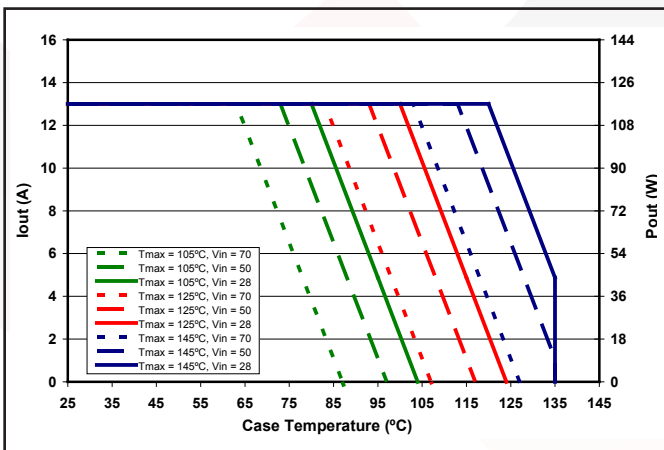

Figure 5: Output Current / Output Power derating curve as a function of  $T_{case}$  and the Maximum desired power MOSFET junction temperature (see Note 14).
2. Derate output power for continuous operation per Figure 5.
**THERMAL CONSIDERATIONS:** Figure 5 shows the suggested Power Derating Curves for this converter as a function of the case temperature, input voltage and the maximum desired power MOSFET junction temperature. All other components within the converter are cooler than its hottest MOSFET.
The Mil-HDBK-1547A component derating guideline calls for a maximum component temperature of 105°C. Figure 5 therefore has one power derating curve that ensures this limit is maintained. It has been SynQor's extensive experience that reliable long-term converter operation can be achieved with a maximum component temperature of 125°C. In extreme cases, a maximum temperature of 145°C is permissible, but not recommended for long-term operation where high reliability is required. Derating curves for these higher temperature limits are also included in Figure 5. The maximum case temperature at which the converter should be operated is 135°C.